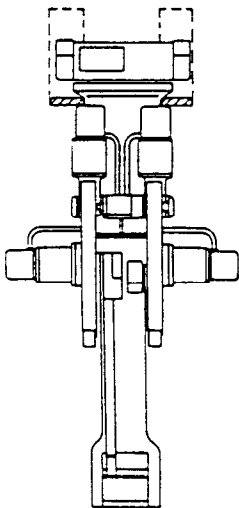
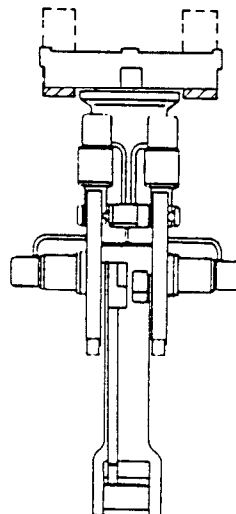

Figure 3-4
Figure 3-5
8. Lower the robot or raise the fork lift until the robot base is suspended on the fork and the strap hangs loose. The fork can either fit on the robot body (Figure 3-4) or the robot base (Figure 3-5).